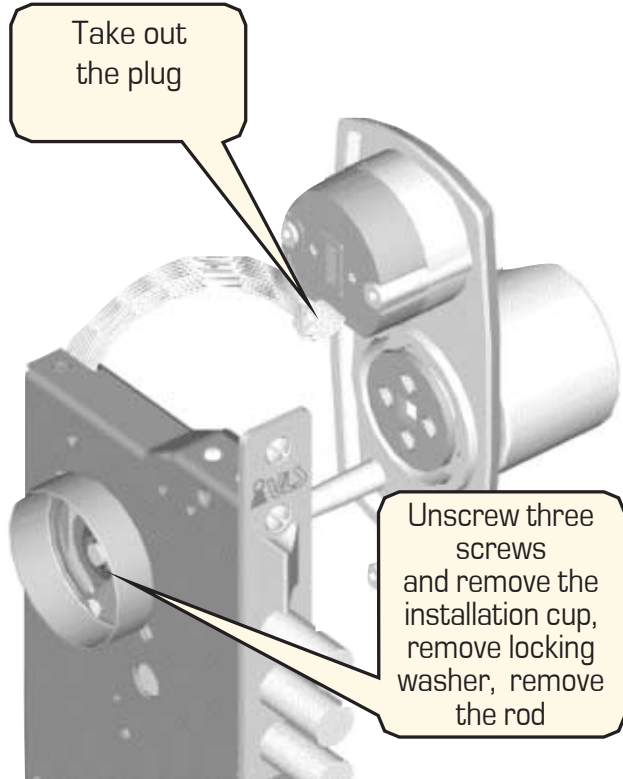

Figure 13 – Removal of outer handle with scutcheon and installation cup
11. Unscrew the three fixing screws that hold the cup in its place, and remove the cup (fig. 13).
12. Using a screwdriver or pincers, remove the locking washer from the rod (fig. 13).